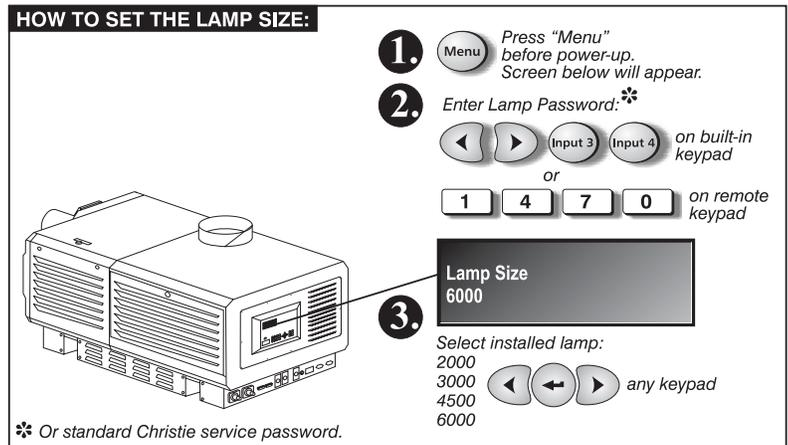

Figure 2.3. Setting Lamp Size
2. Enter either the Lamp Password (see Figure 2.3), or the Christie service password.